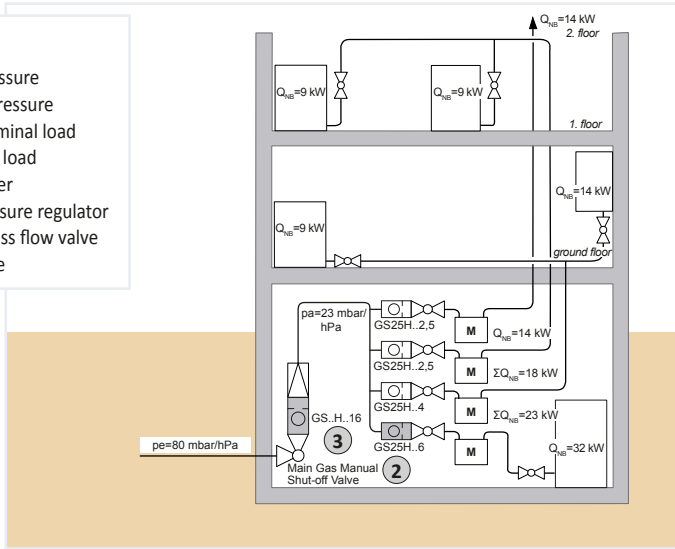

Figure 4: SENTRY GS in a multi-family dwelling (supplied with natural gas)
- See ③ in figure 4
- See ② in figure 4
- Result: ② in table 1 = GS..6 (GS25HH6...)